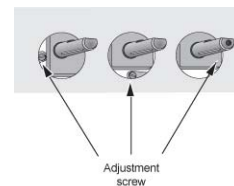

Figure 8
---The adjustment screw may be located at the centre of the gas tap control shaft or on the gas tap body, left of the control shaft or below (see figure 8*).